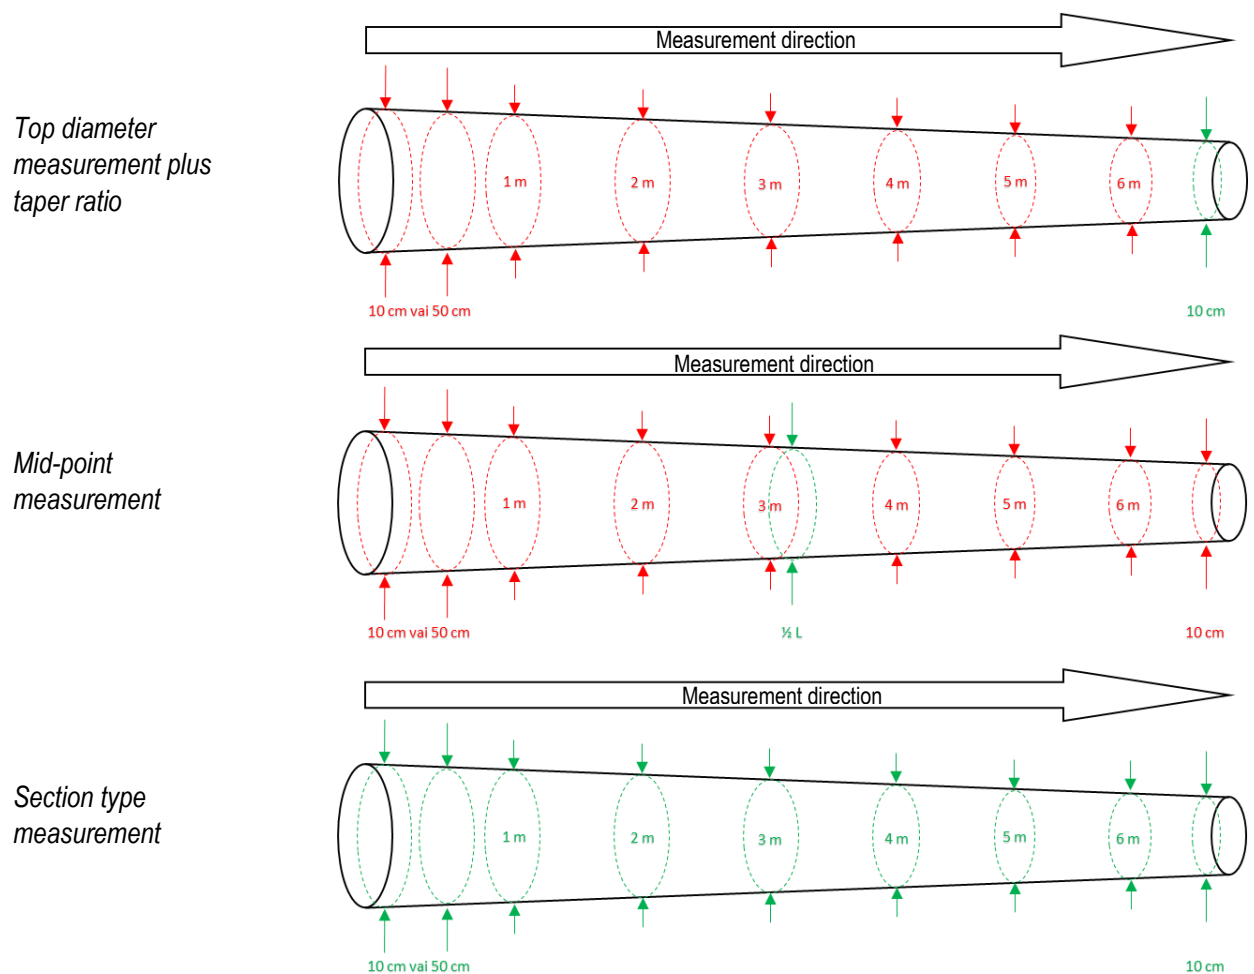

Figure 1. Volume determination scheme according to used measurement method in processing site
- 1.2. To be measured in accordance with **Figure 1**: